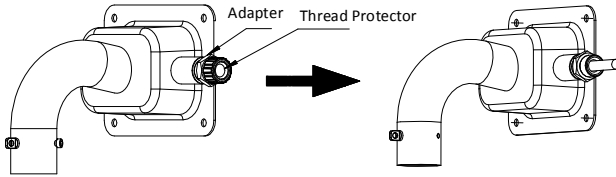

Figure 2-13 Seal the Cable Entry
- Seal the cable entry by installing the protective steel tube on the adapter as shown in Figure 2-13.